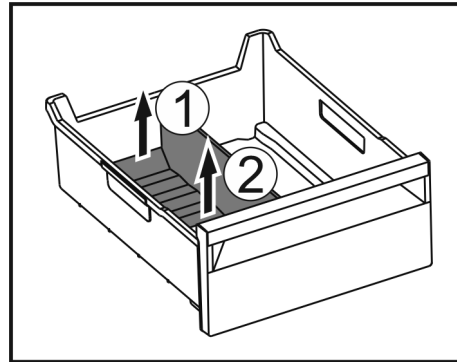

Fig. 46
- ▶ Lift the rear part of the ice compartment divider. Fig. 46 (1)
- ▶ Remove the ice compartment divider upwards. Fig. 46 (2)